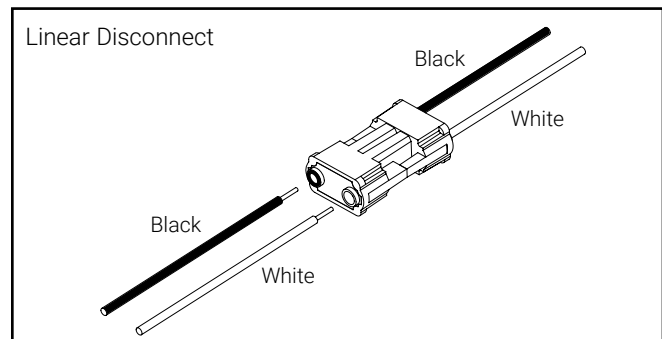

Figure 4.
- Make necessary wiring connections to driver AC line input. A Linear Disconnect is provided to speed installation (Figure 4). Optional DALI or 0-10V dimming circuits are wired. See Wiring Diagrams *